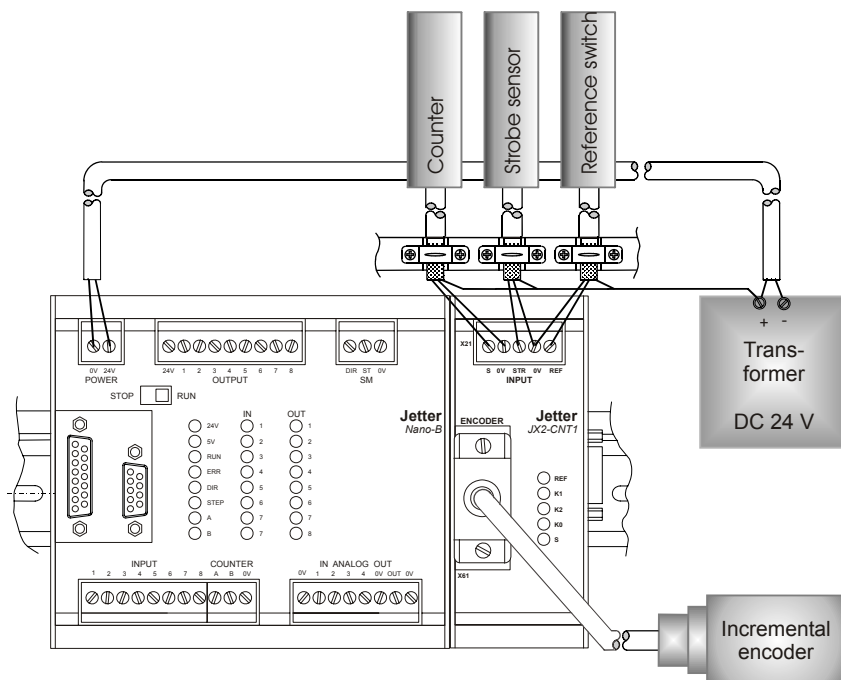

Fig. 2: Shielding of screw terminals in conformity with the EMC standards.
- It is important that shield and strain relief are highly conductive and directly connected to a grounded surface with the greatest possible surface area. When doing so, grounding must be implemented in a way that the unshielded portion of the cable is as short as possible (refer to Fig. 2).
- The length of unshielded conductor ends must not exceed 8 cm (refer to Fig. 2).